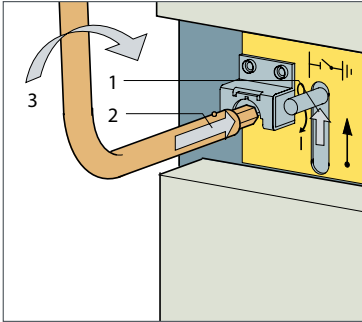
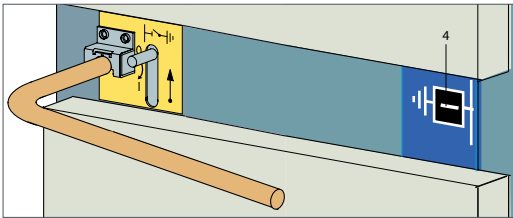

Fig. 10.33
Fig. 10.34
- Push the slide (Fig. 10.33, 1) upwards and insert the control lever of the earthing switch with the lever rod pointing upwards (2).
- Turn the lever clockwise by approx. 95° (3).
- Check position indicator. It must indicate that the earthing switch is ON (Fig. 10.34, 4). Remove lever.